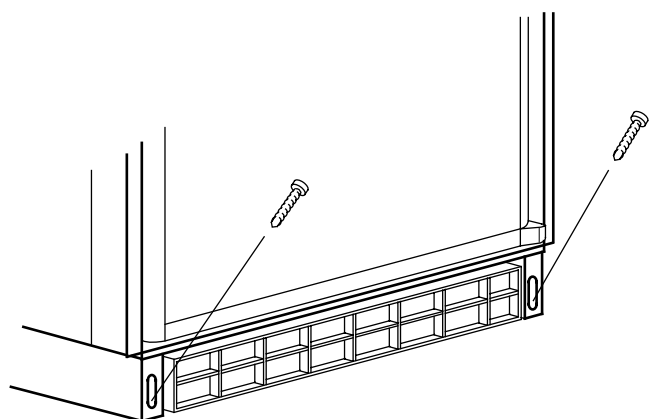

FIG. 4
STEP 1: Two screws installed through the front base, one on each side see FIG. 4.